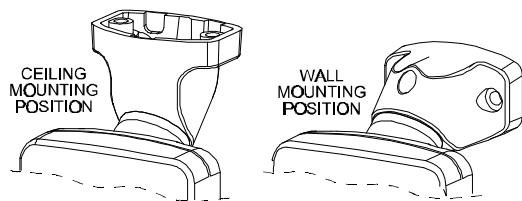

Figure 7. Wall and Ceiling Positions of Bracket
- E. Rotate the bracket to the desired position (see Figure 7) but do not yet tighten the screw fully.